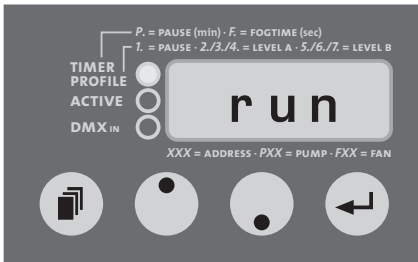

Fig. 8: Start the profile
- To start the Profile with the adjusted values, press the Mode button [14], until „run“ appears on the display (Fig. 8), then press the Enter button [16].